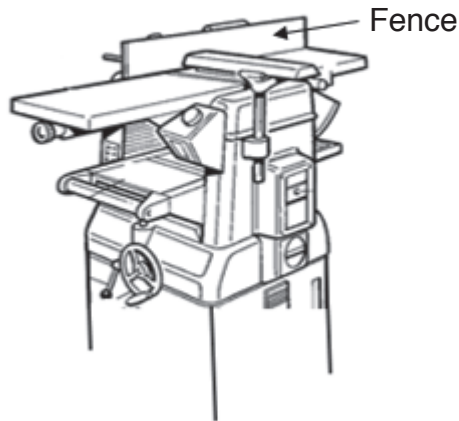

Fig. 15
6 Fig. 15 shows a stationary machine used in the workshop.
(a) Name the machine shown in Fig. 15.
- (e) The machine shown in Fig. 15 can be used to produce a number of shapes like chamfers and rebates.